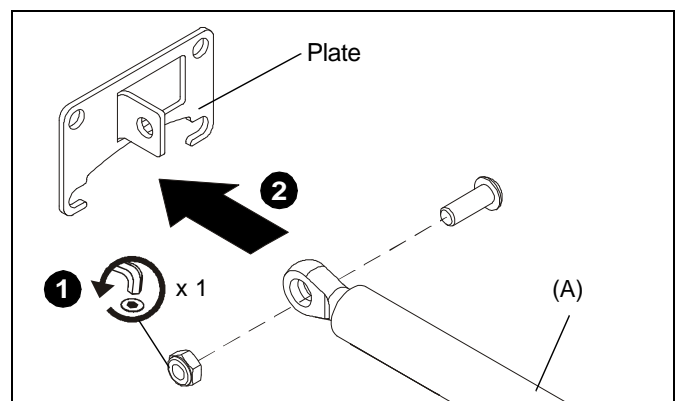

Figure 8
1. Remove and save one button head cap screw and nut from plate at end of gas spring assembly (A). (See Figure 8)
2. Remove plate from end of gas spring assembly (A). (See Figure 8)